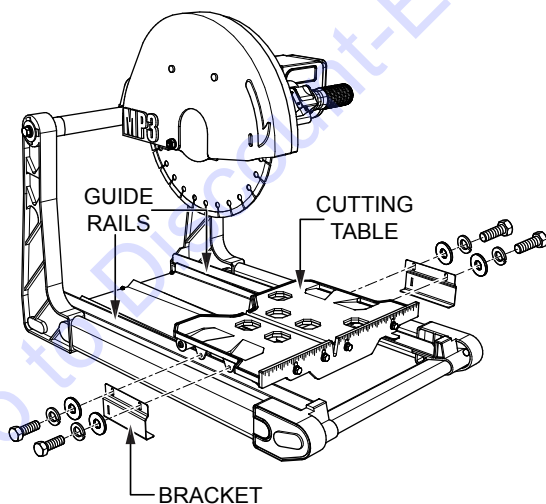

Figure 5. Cutting Table Installation
2. Place the cutting table onto the cutting table guide rails (Figure 5).
3. Secure the cutting table to the cutting table guide rails with the provided brackets and hardware (Figure 5).